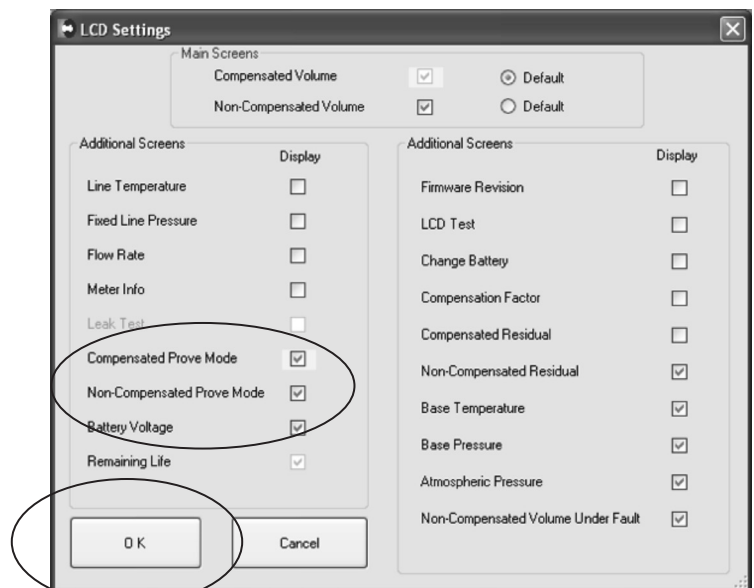

Figure 10.2 - LCD Settings screen in Dresser MeterWare
2. From the **LCD Settings** screen (Figure 10.2), choose either **Compensated Prove Mode** or **Non Compensated Prove Mode**, or both, and then select OK to return to the **Configuration** screen.